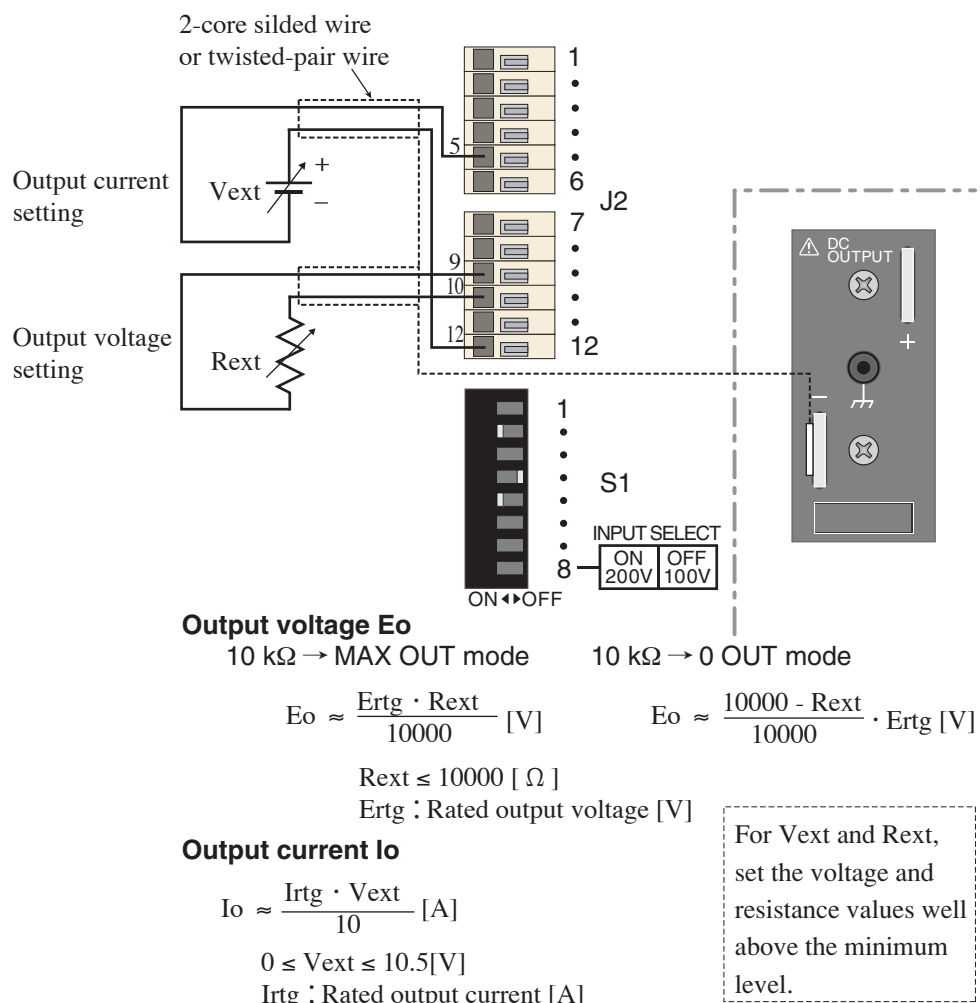

Fig. 4-9 Connection for Control 3
- Fig. 4-9 shows the general relationship between Vext and the output current I_o and between Rext and output voltage E_o . But since they are approximate formulas, if you need precise zero and maximum values for output values, adjust the Vext and Rext values (E_o applied to the $10\text{ k}\Omega \rightarrow 0\text{ OUT}$ mode).